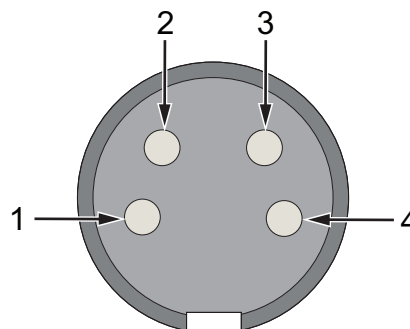

Figure 3-31: Shaft Encoder Connector Pin Diagram
**Note:** Figure 3-31 represents the view of the connector from the back of the printer.